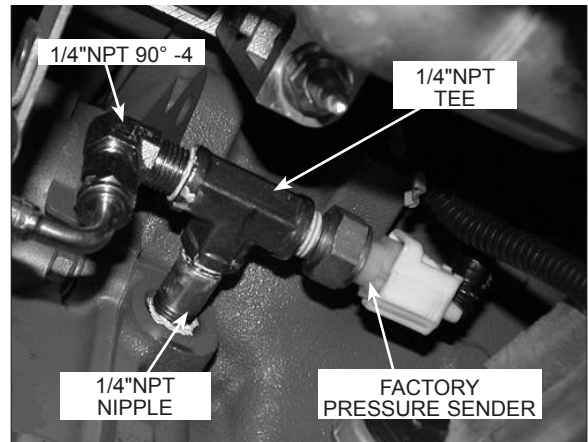

Fig. 3-a
- 2. Screw the open end of the 1/4"NPT nipple into the engine block, where the pressure sender was previously removed. (See Fig. 3-a.)
- 3. Install the 1/4"NPT x 90° x -4 fitting and factory oil pressure sender into the previously installed TEE. (See Fig. 3-a.) Reconnect the pressure sender harness connection.